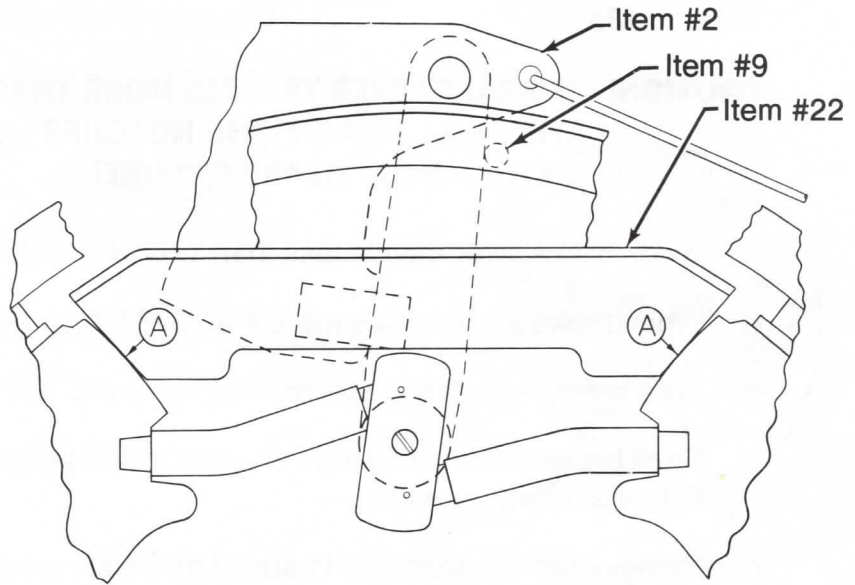

Fig. 35
10. Top edge of brake linings should bear lightly on set-up drum. The brake shoes' metal backbone should also fit up to the upper support casting's angle face (on both sides), points "A", Fig. 35. If all four points of contact are not achieved, remove set-up drum and do steps 3 thru 10.